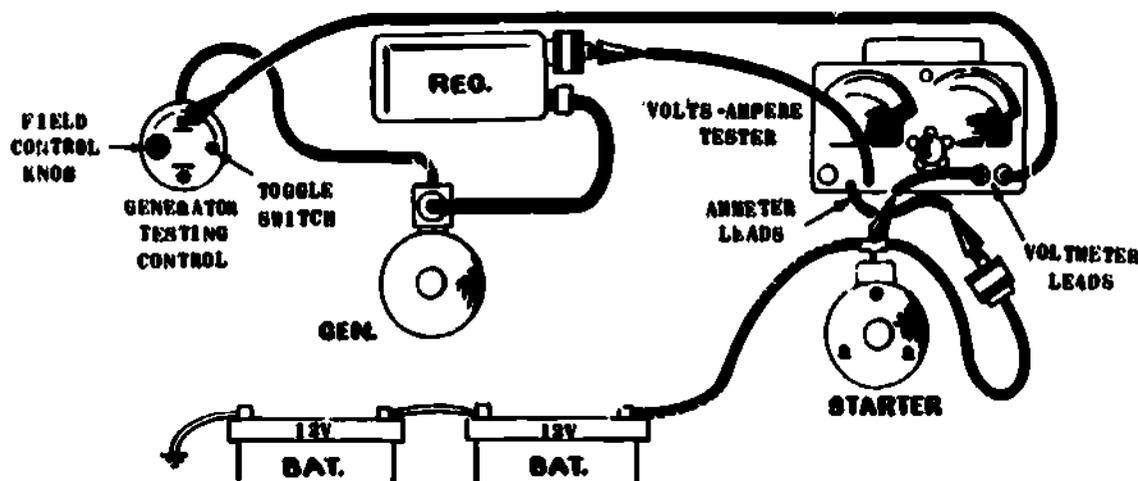

Fig 1-16. Insulated charging circuit resistance test.
**2. Insulated circuit resistance test (fig 1-16).** Excessive resistance in the charging circuit will cause undercharging of the batteries and an abnormal load on the generator and generator regulator.